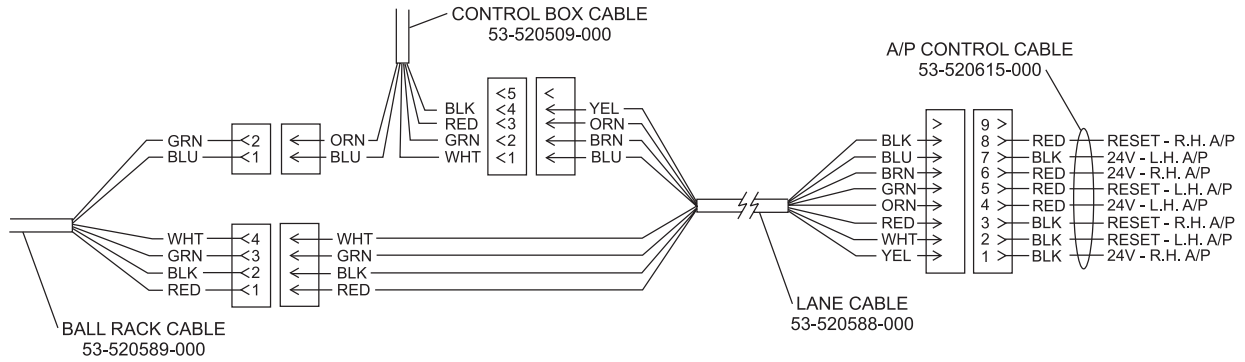

Figure 5
1. Locate the lane cable, 53-520588-000. Refer to *Figure 5*.